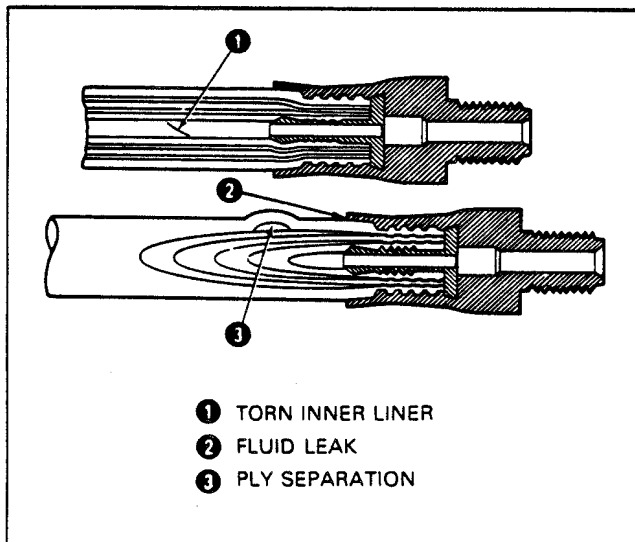

Figure 8 — Flexible Hose Damage
4. Carefully check for incomplete ruptures indicated by a bubble between the plies of the flexible hose or a torn inner liner (Figure 8).